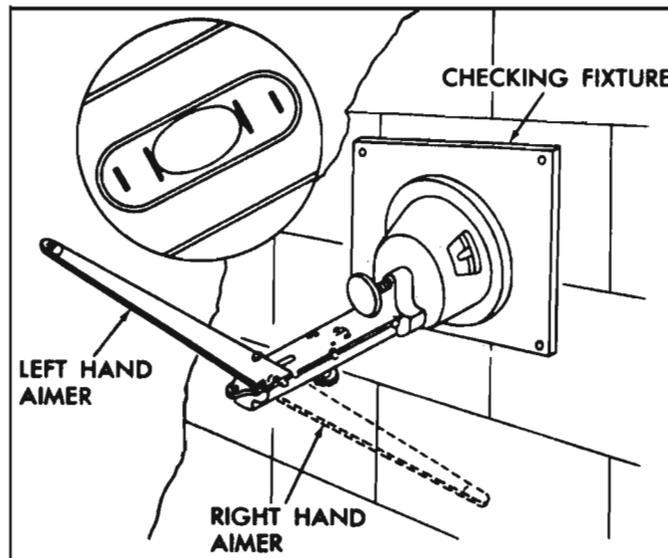

Fig. 8-95—Checking Vertical Calibration
4. Hold the seating plane of the aimer in contact with the three screws and with the horizontal arm parallel with the floor (fig. 8-95). The screw heads must be long enough to provide clearance between the flange of the aimer and the board.
- With the numeral "0" in the DOWN window of the aimer, hold the aimer seating plane against the three screws on the plywood board with the horizontal arm parallel to the floor (fig. 8-95). If the bubble is centered, the aimer is in calibration.